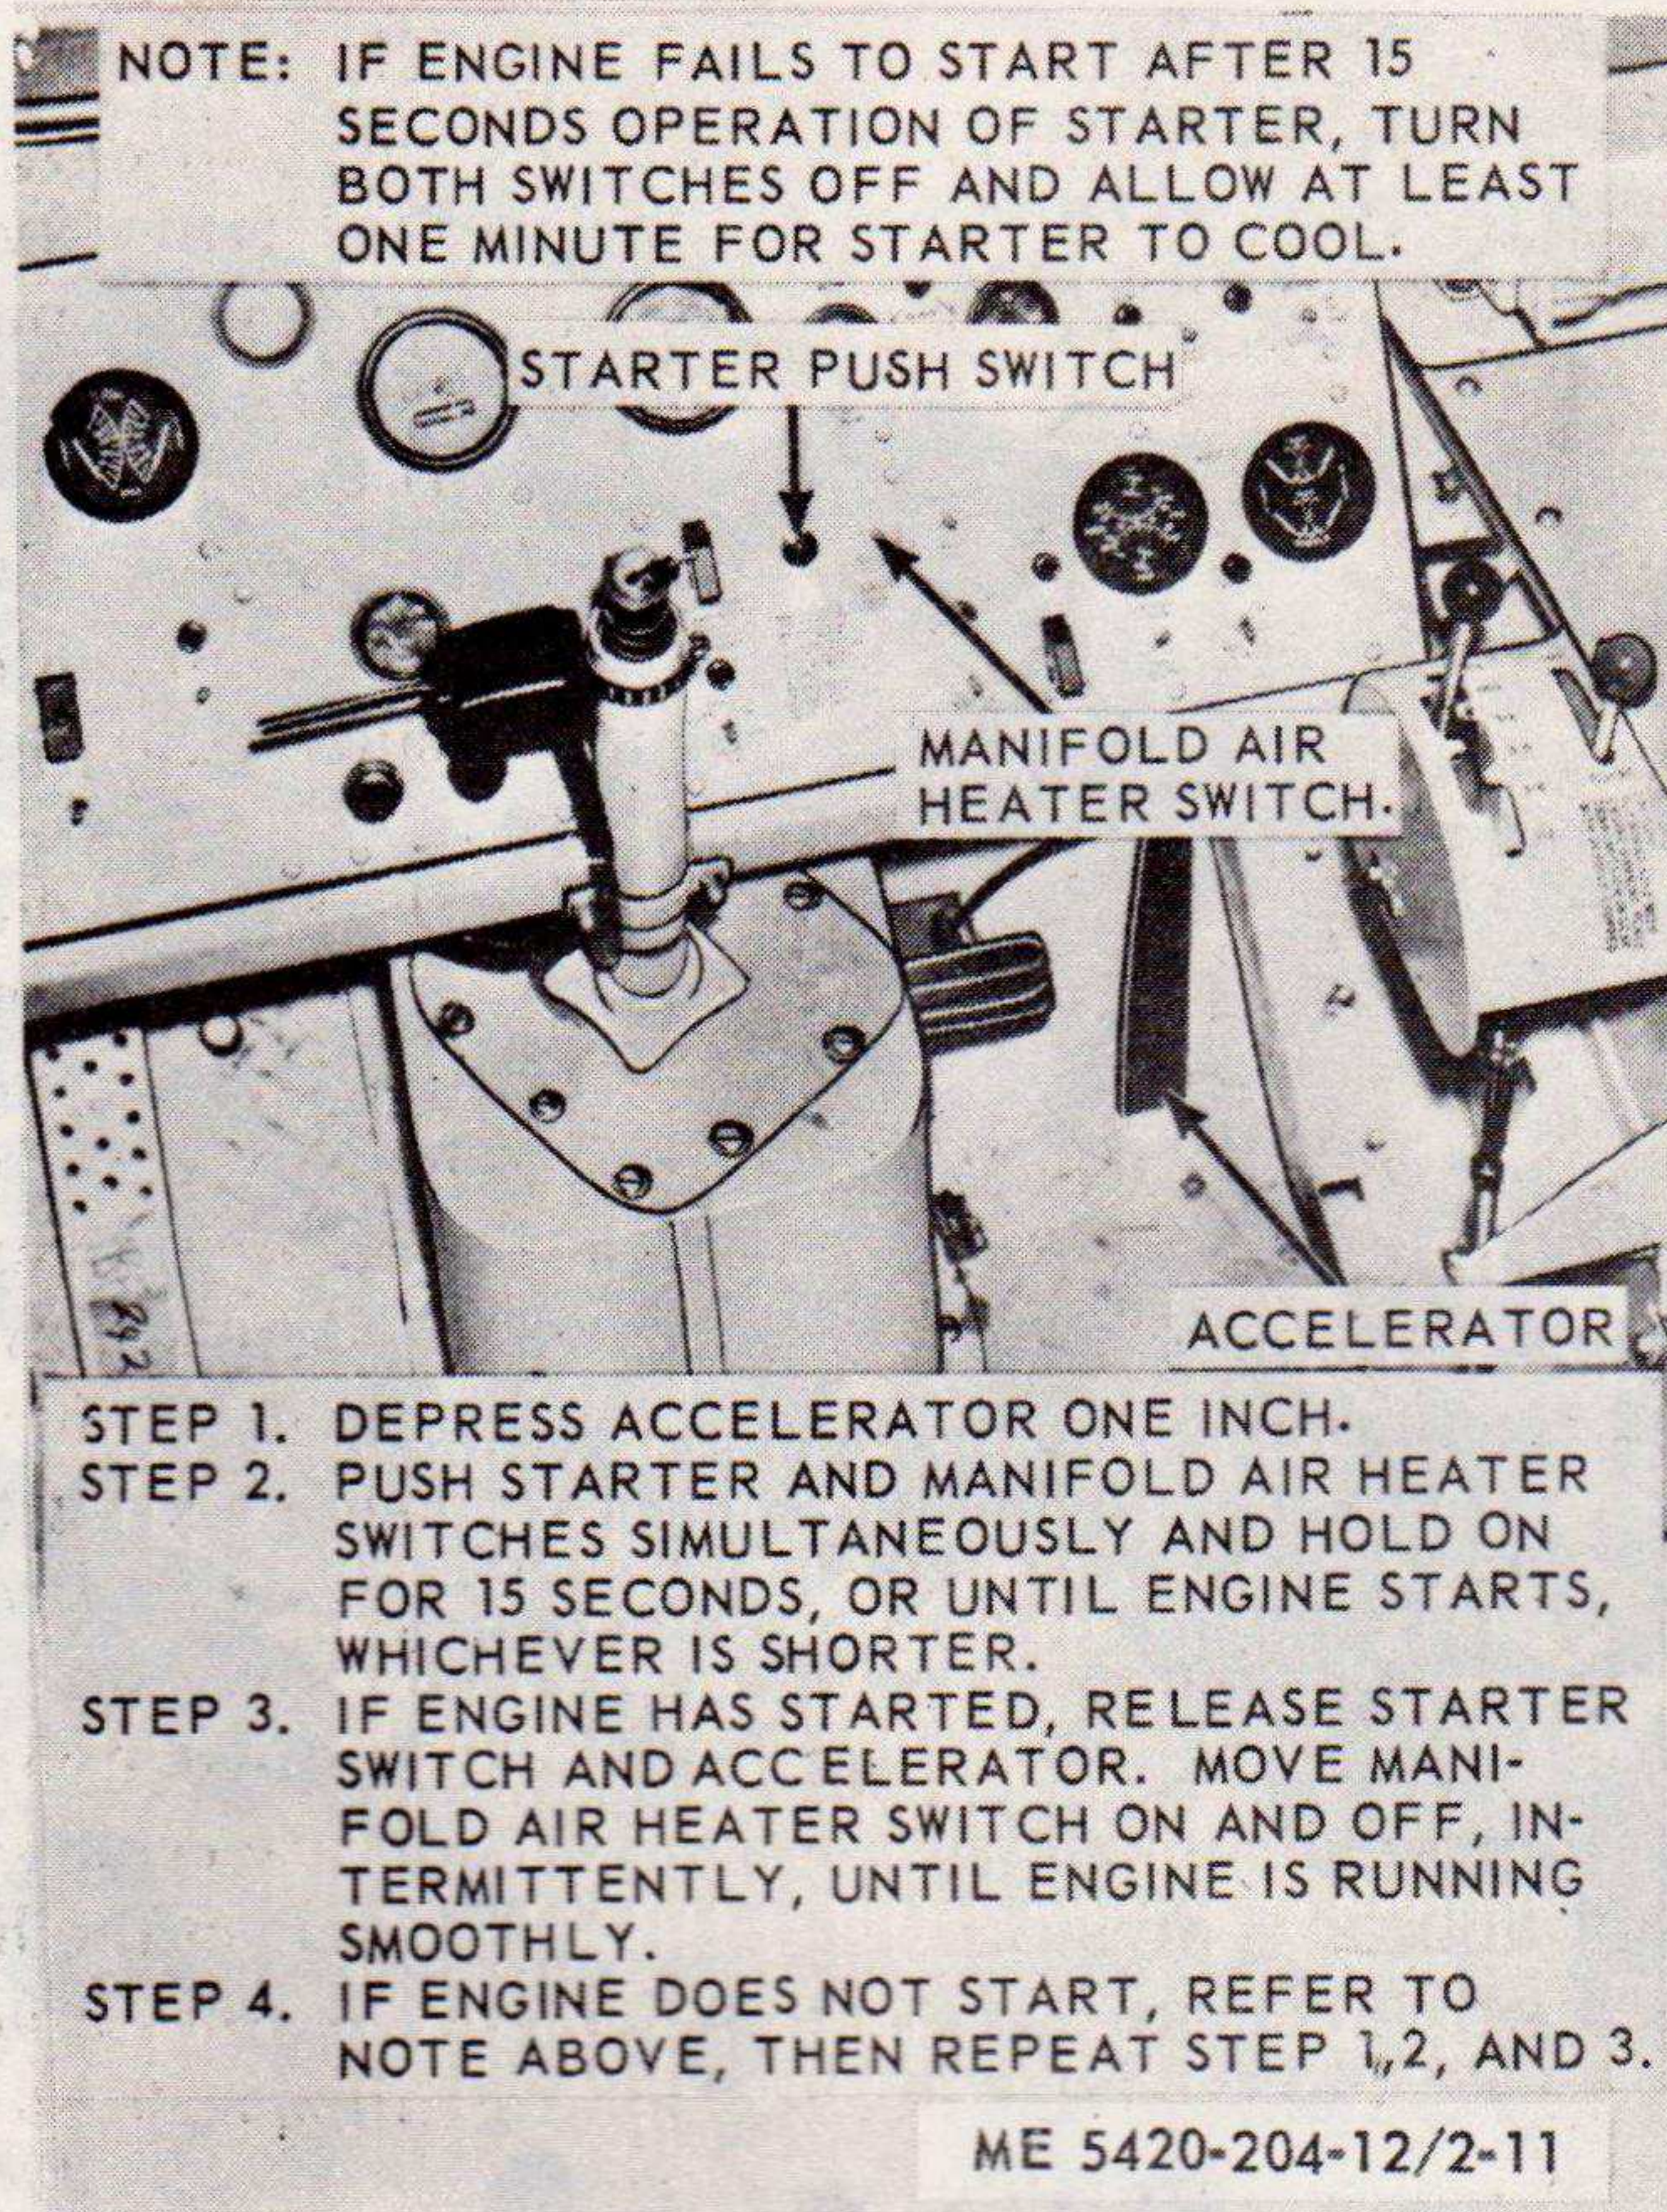
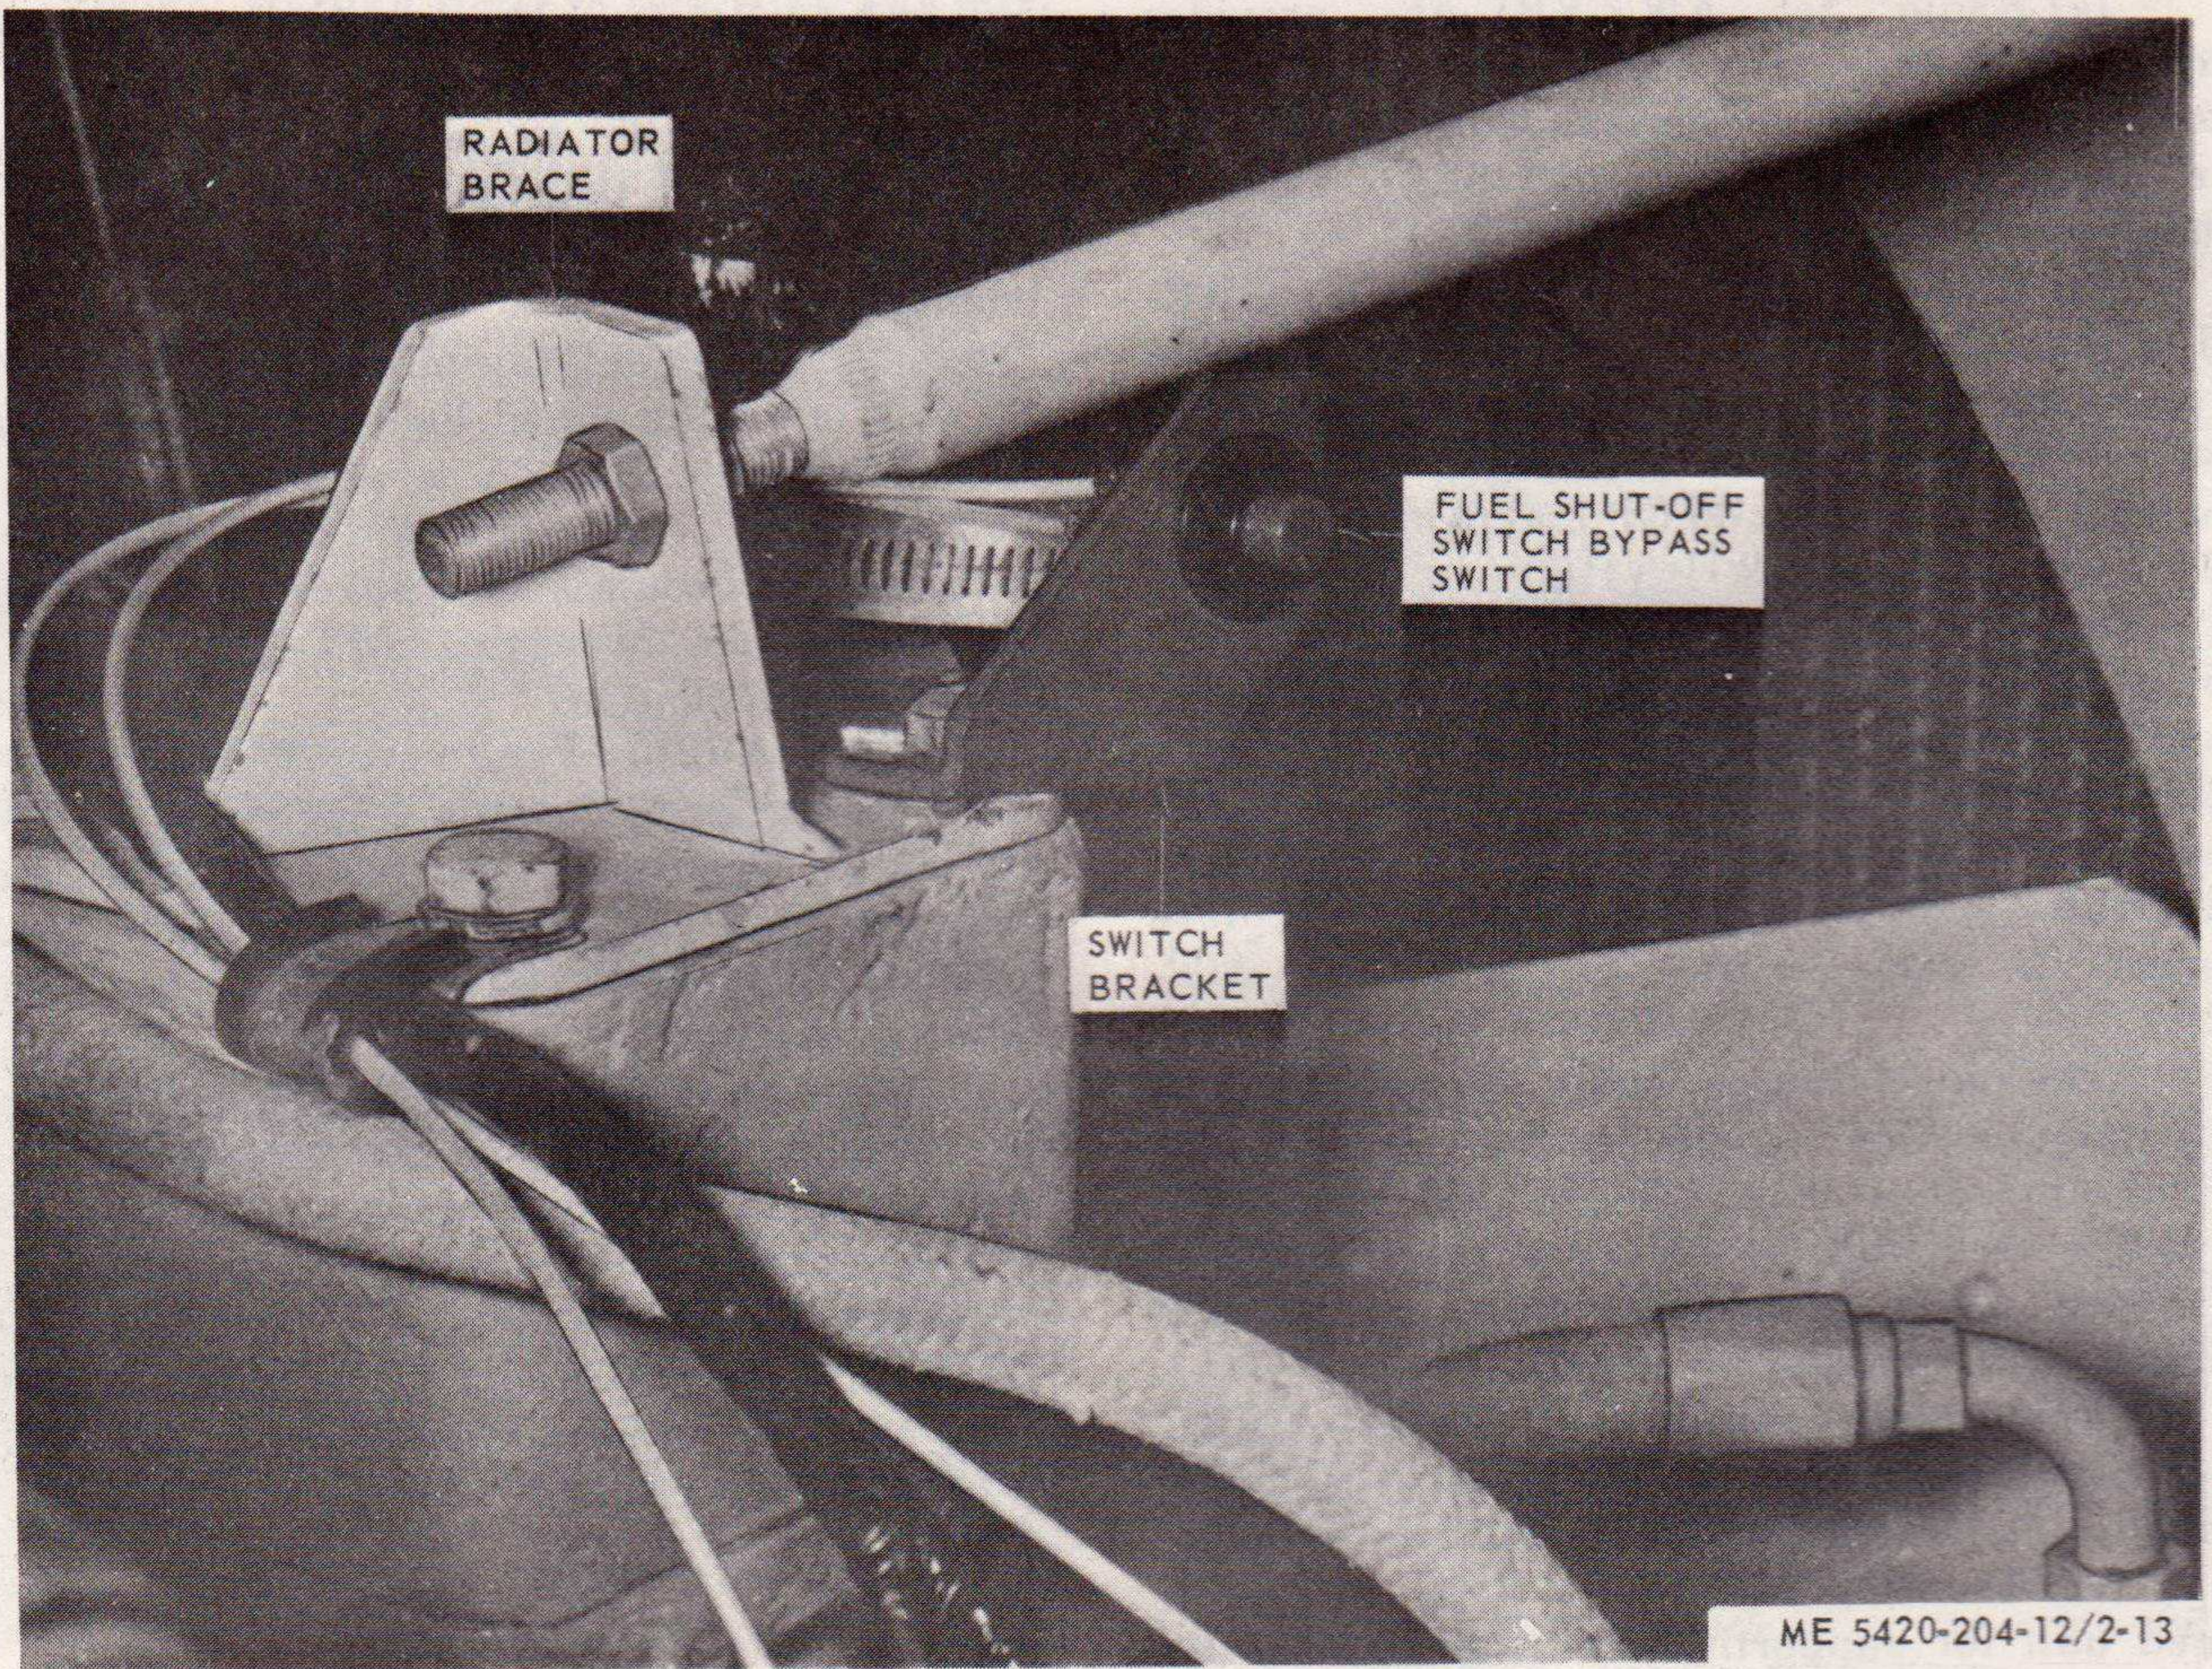

Figure 2-11. Cold weather starting of engine.
Figure 2-13. Fuel shut off switch by-pass switch.
*b. Operation.* Refer to figure 2-11 and operate the air heater.
—24° F. Refer to figure 2-11 for starting the engine. If the engine has been cranking and suddenly stops, one crew member will push the fuel shut-off switch by-pass switch (fig. 2-13) and hold the button down, while the operator engages the starter switch until the engine starts.